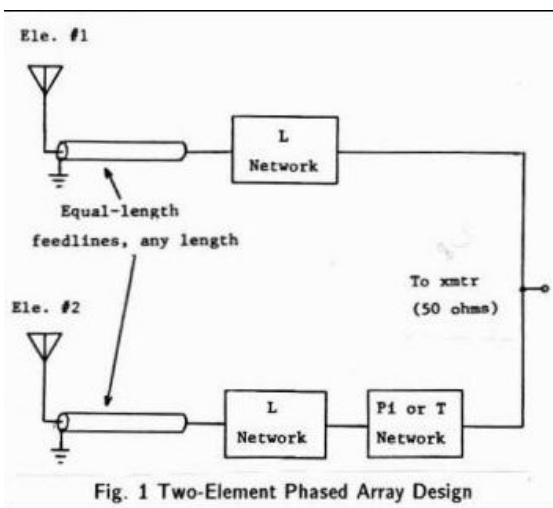

Fig. 1 Two-Element Phased Array Design
The topology of the resulting system (using a 2-element array as an example) is shown in Figure 1. Note that the elements are all fed through equal-length coaxial lines. No phasing lines are used since the phasing is achieved in the L-C networks. These networks are comprised of simple L and pi (or T) type networks which accomplish the following functions: (1) the impedances at the inputs of each coax feed er are transformed by the L networks to a value which insures that the antenna currents divide in the correct ratio for each element, (2) the pi (or T) networks provide the phase correction to achieve the proper relative current phasing in the elements, and (3) these same networks also provide a 50-ohm match to the